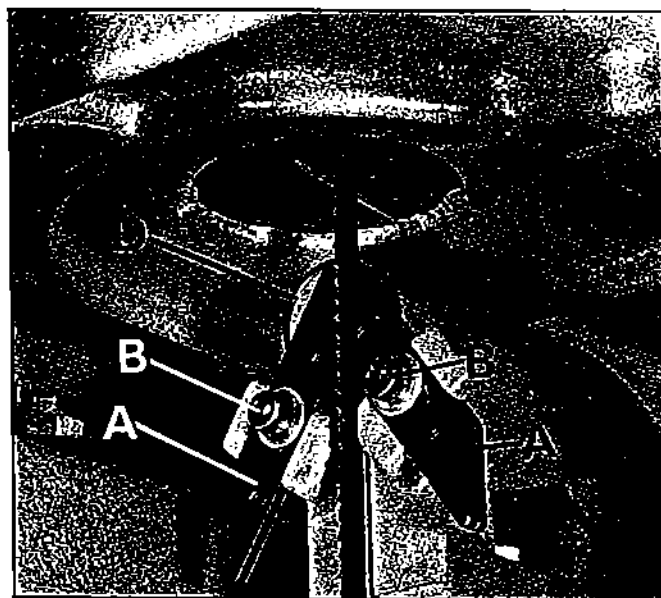

Fig. 6
2. The lower blade support bearing (D) Fig. 6 is adjusted in the same manner.